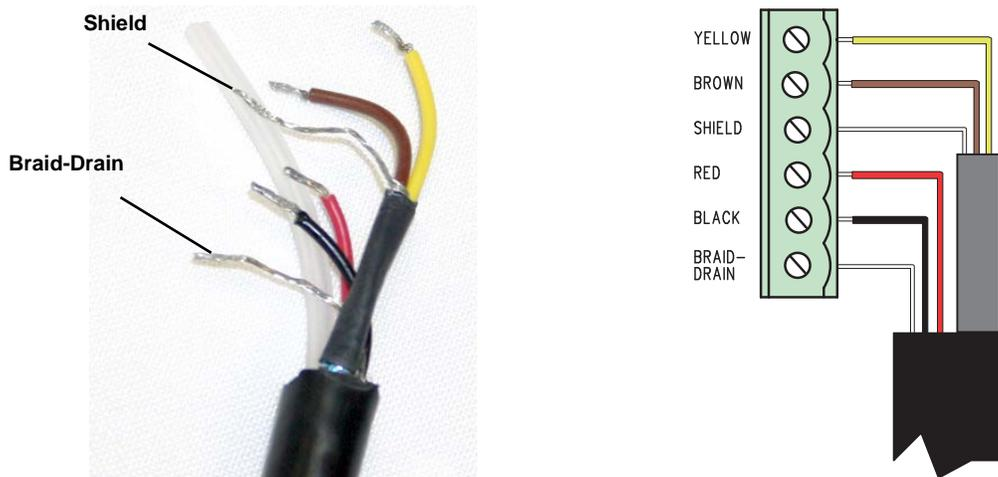
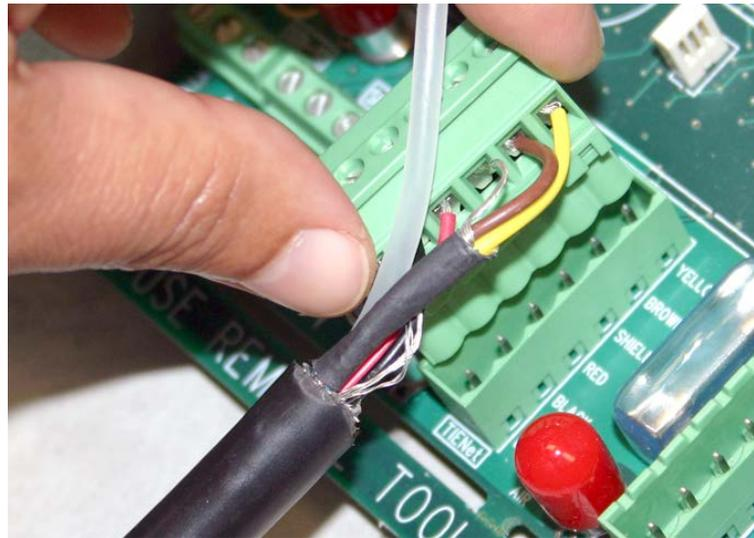

Figure 2-8 TIENet device terminal connections
Figure 2-9 Attach wired terminal strip to case board socket
Barriers or isolators required for certifiable safe installation are the responsibility of the user. Refer to the control drawings provided in Figures 2-9.
4. Attach the wire ends to the terminal strip as shown in Figure 2-8), then press the terminal strip back down into its socket on the case board, as shown in Figure 2-9, ensuring no wire connections are strained. Gently tug each wire when finished, to verify secure connection to the screw terminals.